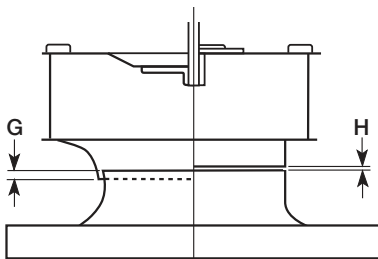

Fig. 7
1. Check all fasteners and set screws for tightness. The wheel should rotate freely and be aligned as shown in figure 7.